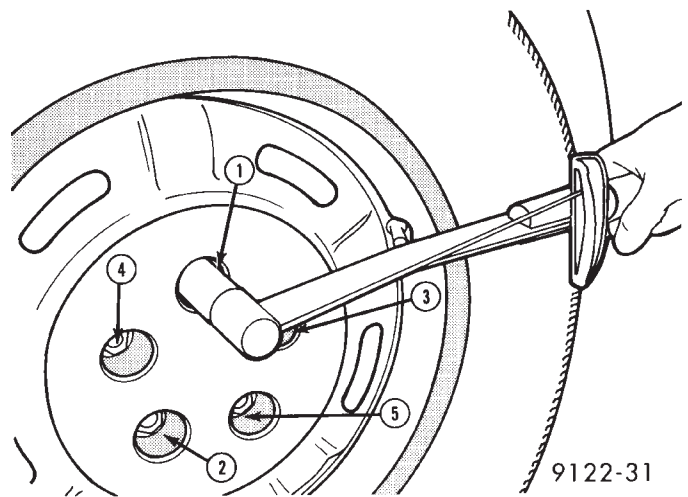

Fig. 18 Install Wheel & Tire Assembly
(4) Install wheel and tire assembly. Tighten wheel nuts to 129 N•m (95 ft. lbs.) torque (Fig. 18).